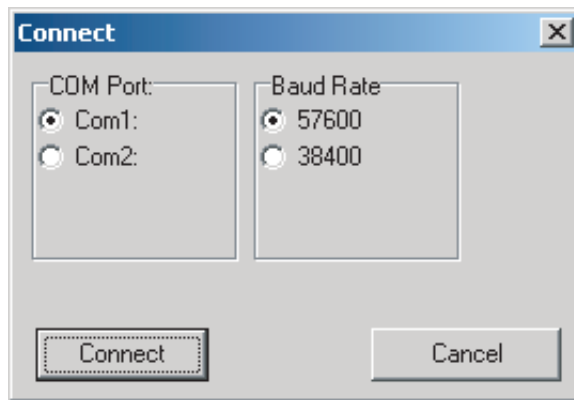

FIGURE 2.4 Configure Connection dialog
- **Configure Connection** - allows you to select your PC's COM (serial) port to which you have connected the Tabletop Controller and identify the baud rate for that port. Click the radio buttons to set the specified port and baud rate (see Figure 2.4).